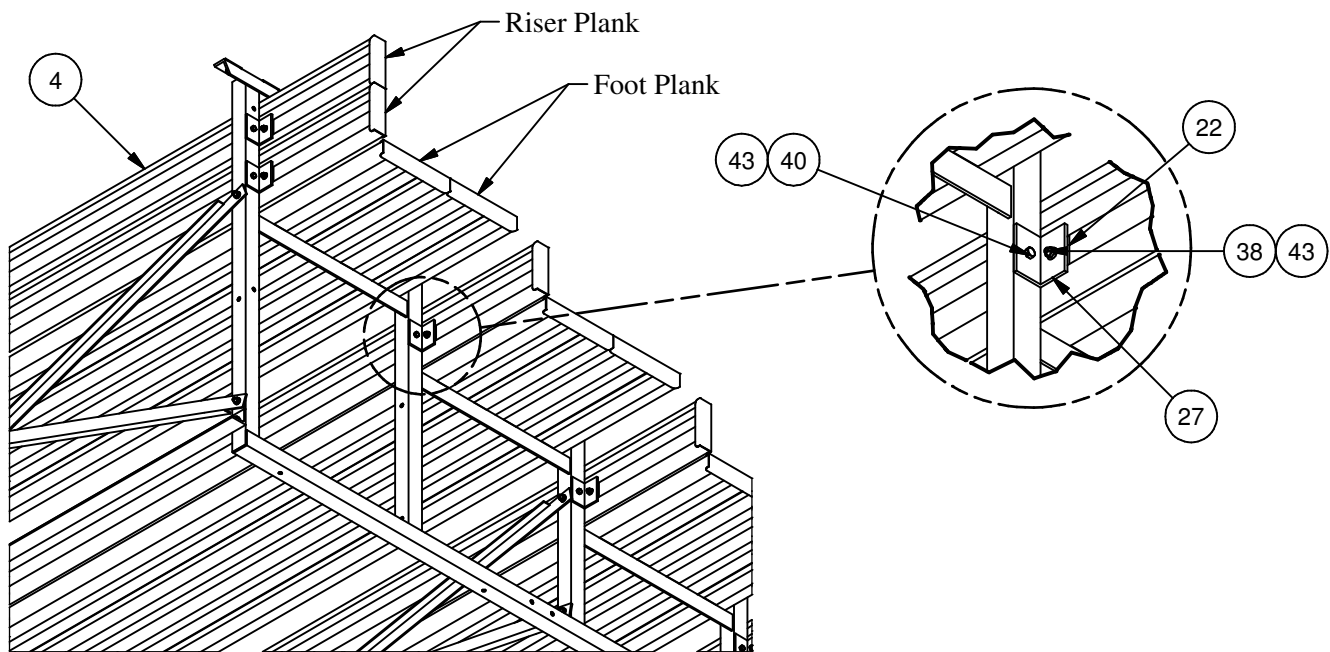

Figure 8
7. Install the riser planks on the 2nd through 5th row seat vertical angles. First install the riser mounting angle onto the upright using the 5/16" x 1" hex bolt and 5/16" whizlock nut. Note: Two (2) angles are used on the top row verticals. Once all the mounting angles have been installed at all frame positions, loosely install the mounting clip with the 5/16" x 1" carriage bolt and 5/16" whizlock nut. See figure 8.